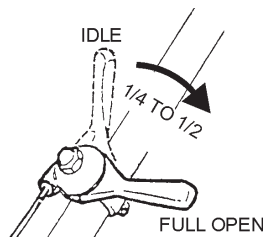

Figure 8. Throttle Lever (1/4 to 1/2)
4. Move the throttle lever (Figure 8) between 1/4 to 1/2 from the idle position.
1. Move throttle lever quickly from the **FULL OPEN** to **IDLE** position (Figure 8) and run the engine for three minutes at low speed.